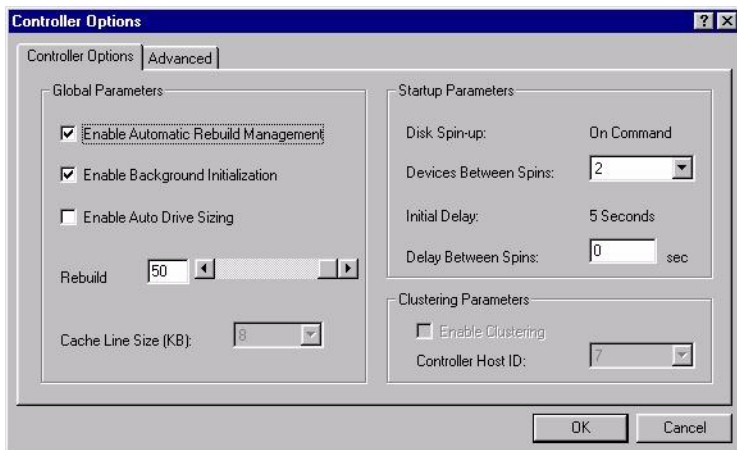

Figure 4-24. Controller Options Dialog Box for new PCI DAC
1. Select the Controller Options tab (Figure 4-24).